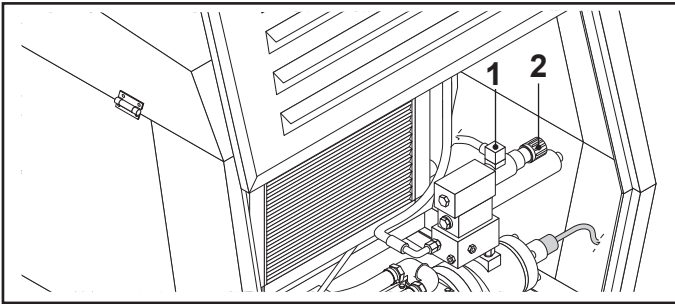

FIG. 48
***In case of a failure in an electric or electronic component you can manually set the accelerator flow-rate by unplugging the connector (FIG. 48-REF. 1) from the solenoid valve and turning the knob (FIG. 48-REF. 2) on the solenoid valve. However, in this case the flow rate will not be synchronized with the variations in the concrete's flow rate.***